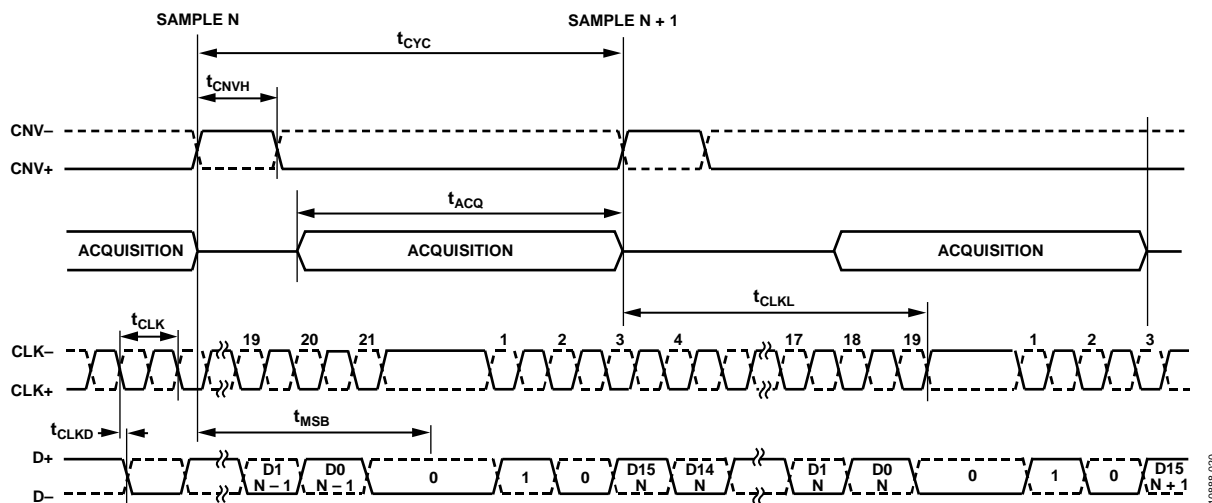

Figure 37. Self-Clocked Interface Mode with Extra Clock Pulse Timing Diagram
When the self-clocked interface mode is used, the AD7961 also allows the user to provide an extra (19th) clock pulse to see a guaranteed 0 state at the end of the frame, as shown in Figure 37. After t_{MSB} has elapsed, the first bit of the header sequence, 0, automatically appears on D \pm and the remaining two bits of the header, 10, are then clocked out by the first two CLK \pm falling edges at the beginning of the next sample. This header (010) is used to synchronize D \pm of each conversion in the digital host because, in this mode, there is no clock output synchronous to the data (D \pm) to allow the digital host to acquire the data output.